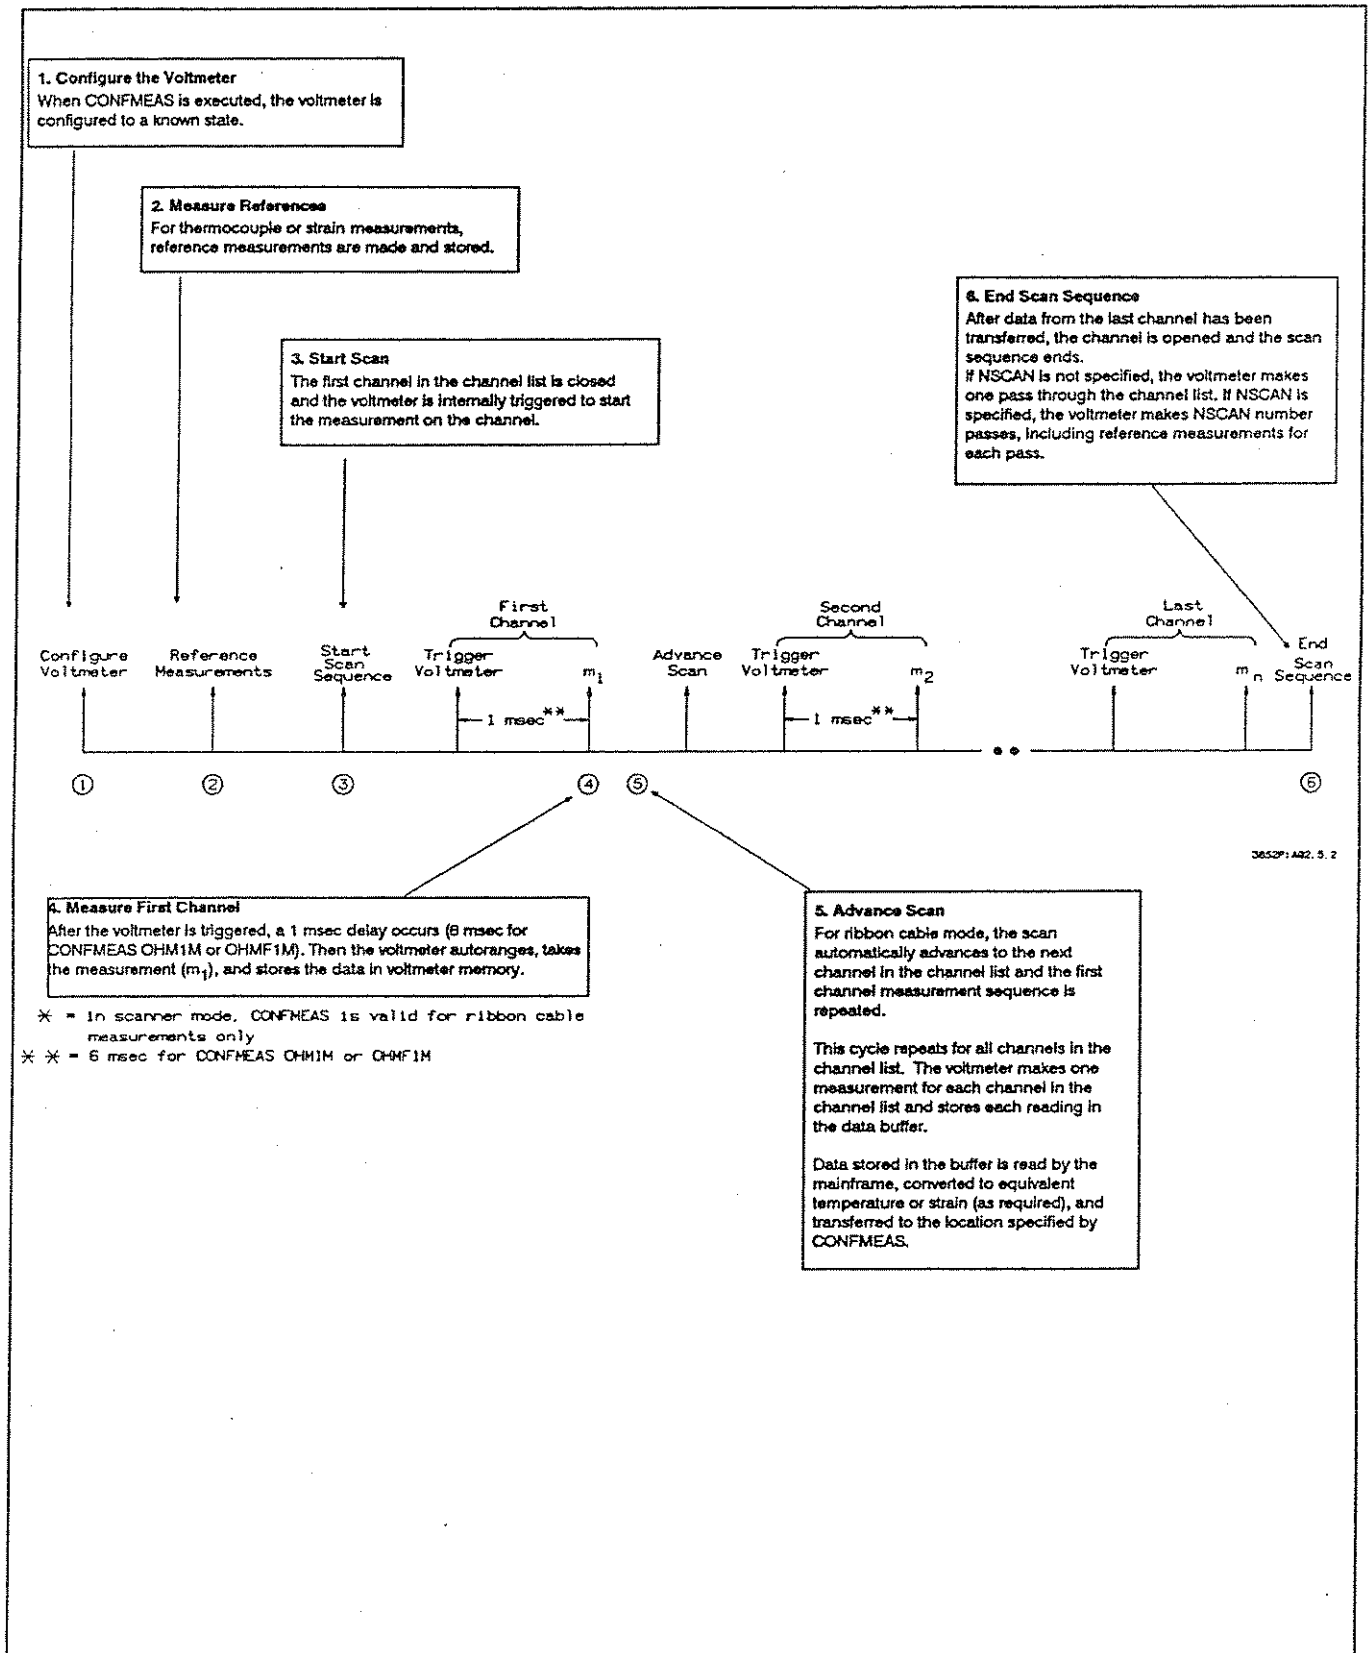

Figure 5-2. CONFMEAS Operation (Scanner Mode)
**CONFMEAS Operation** Figure 5-2 shows simplified voltmeter operation for CONFMEAS with Scanner Mode ribbon cable measurements. When CONFMEAS is executed the voltmeter is configured (1), any required thermocouple or strain references are measured (2), and the scan sequence is started (3).